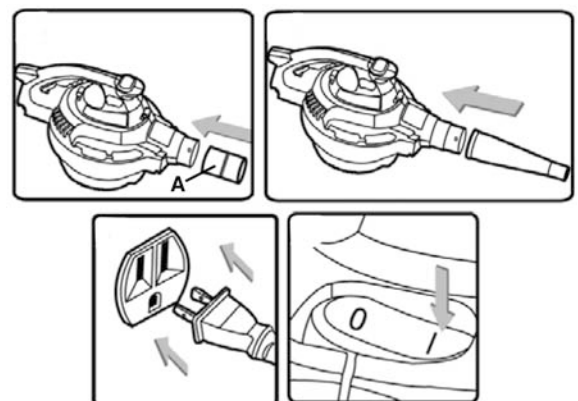

FIGURE 16
- 4) Insert the blower adaptor fitting (A) Fig.16 into the blower outlet and then fit the desired 2-1/2" blower accessory such as the extension, blower nozzle or the cone nozzle to the blower adaptor fitting.
- 5) Plug the power cord to the power source, firmly hold the blower unit and turn it on by placing the switch in the On (I) position.